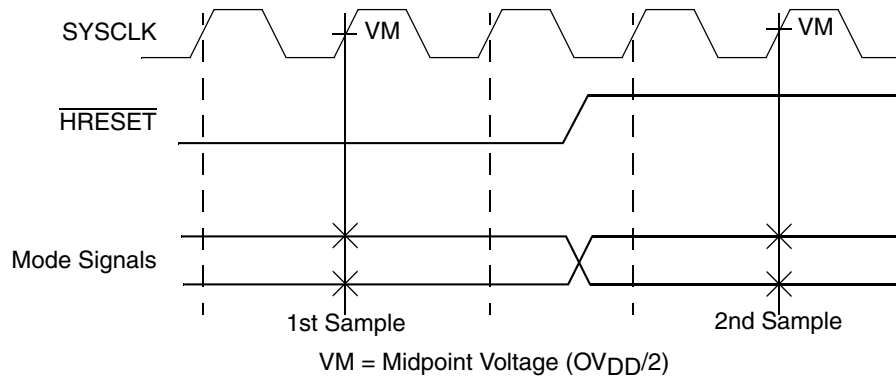

Figure 5. Mode Input Timing Diagram
Table 9 provides the processor bus AC timing specifications for the MPC7457 as defined in Figure 4 and Figure 5. Timing specifications for the L3 bus are provided in Section 5.2.3, “L3 Clock AC Specifications.”
8.  $\overline{\text{BMODE}}[0:1]$  and  $\overline{\text{BVSEL}}$  are mode select inputs and are sampled before and after  $\overline{\text{HRESET}}$  negation. These parameters represent the input setup and hold times for each sample. These values are guaranteed by design and not tested. These inputs must remain stable after the second sample. See Figure 5 for sample timing.
Figure 5 provides the mode select input timing diagram for the MPC7457.